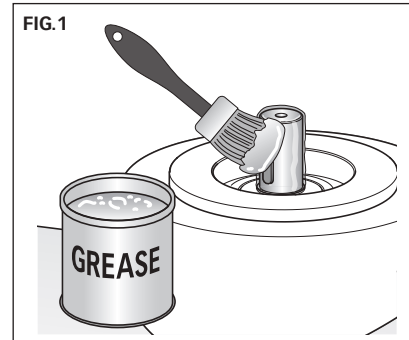

FIG.2
- **FIG. 2** Insert the lower half-joint, secure it with the snap ring (BTAC 513/610 only), and the cush drive damper into the end of the gearleg shaft.